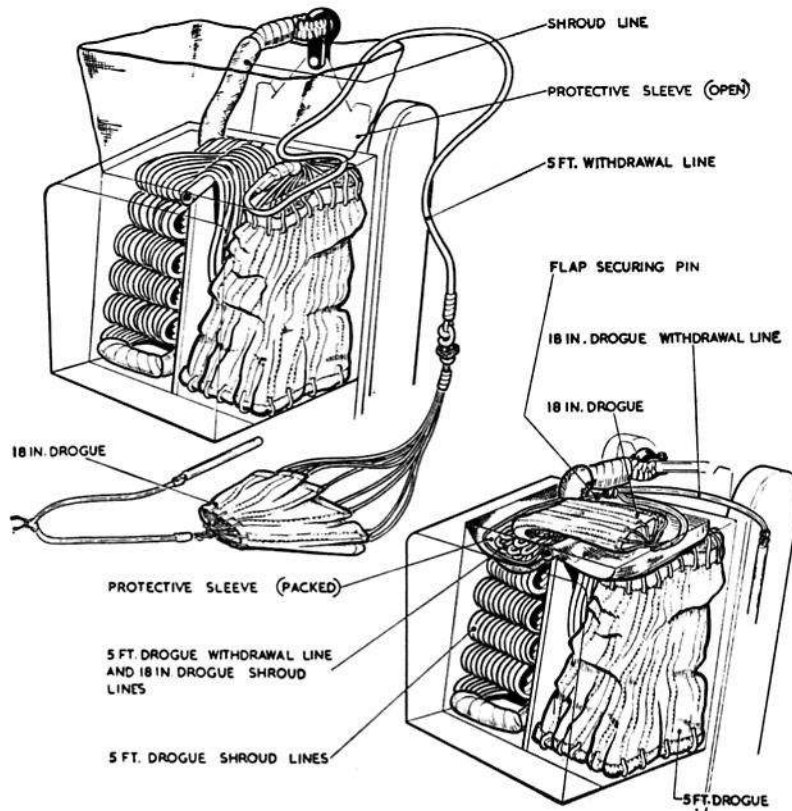

Fig. 20. Stowing the drogues
- (1) Open the four flaps and the protective sleeve.
- (2) Insert the sleeve-protected shroud lines from the shackle into the rearmost outer corner of the right-hand compartment of the drogue container and fold the shroud lines as shown in the upper diagram of fig. 20.
- (3) Extend the remaining shroud lines and check that they are not entangled; fold the 5 ft. drogue into three double folds and pack into the left-hand compartment.
- (4) Cover the shroud lines and the 5 ft. drogue with the protective sleeve. The 5 ft. drogue withdrawal line must emerge from the protective sleeve in the right-hand compartment.
- (5) Fold the 5 ft. drogue withdrawal line and the 18 in. drogue shroud lines on top of the protective sleeve in the right-hand compartment and stow the 18 in. drogue as shown in the lower diagram of fig. 20.
- (6) Close the flaps in the following order:—port (1), starboard (2) rear (3) and front (4). The wire loop must pass through each eyelet in turn and the 18 in. drogue withdrawal line must emerge from the rearmost corner nearest the drogue gun.
- (7) Insert the flap securing pin attached to the 18 in. drogue withdrawal line through the wire loop and tie to the fabric loop on the front flap with a single loop of No. 8 linen thread (Stores Ref. 15A/108).